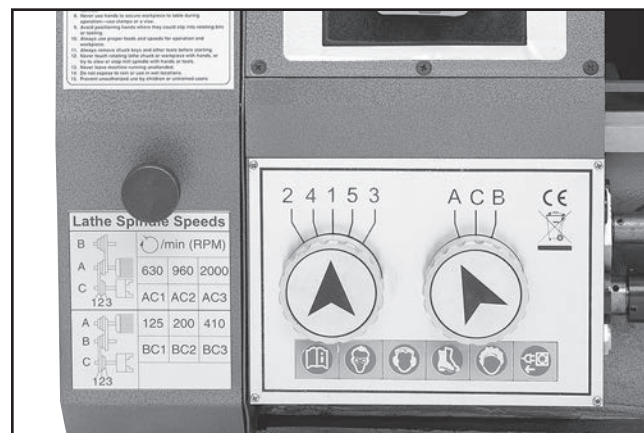

Figure 65. Gearbox dial settings for .0016 in/rev.
3. Set gearbox dials to positions "A" and "1", as shown in **Figure 65**.